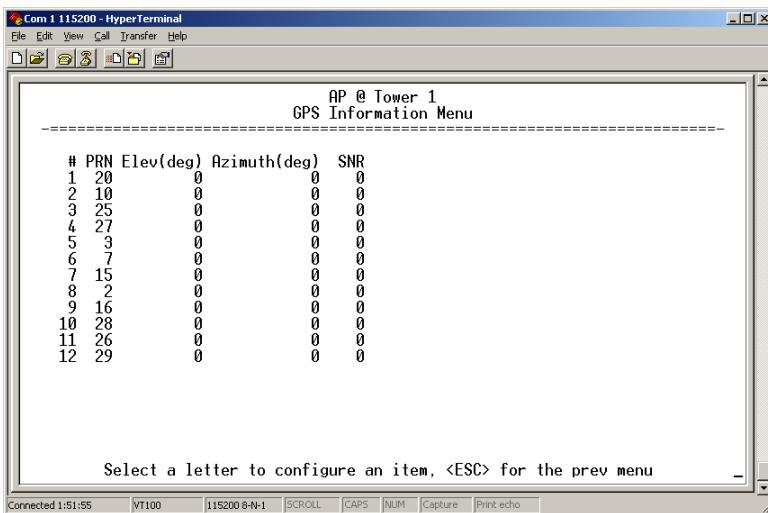

Figure 3-90. GPS Information Menu
- **GPS Information**—Shows data about the individual satellites being received, including the Pseudo-Random Noise (PRN) code (a unique bit stream for each satellite), the satellite’s elevation (in degrees), azimuth (in degrees), and the signal-to-noise ratio of the carrier signal (SNR). Figure 3-90 on Page 119 shows a layout example for this screen.